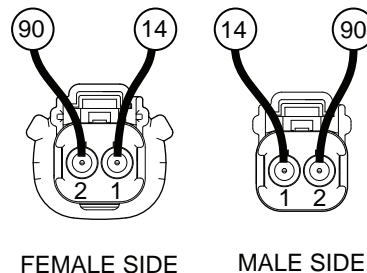

Figure 132. C3 Choke Solenoid Connector
4. Refer to Figure 132. Connect the positive meter test lead to Pin 1 (Wire 14) of the female side of the CS connector going to the control panel and connect the negative meter test lead to Pin 2 (Wire 90).